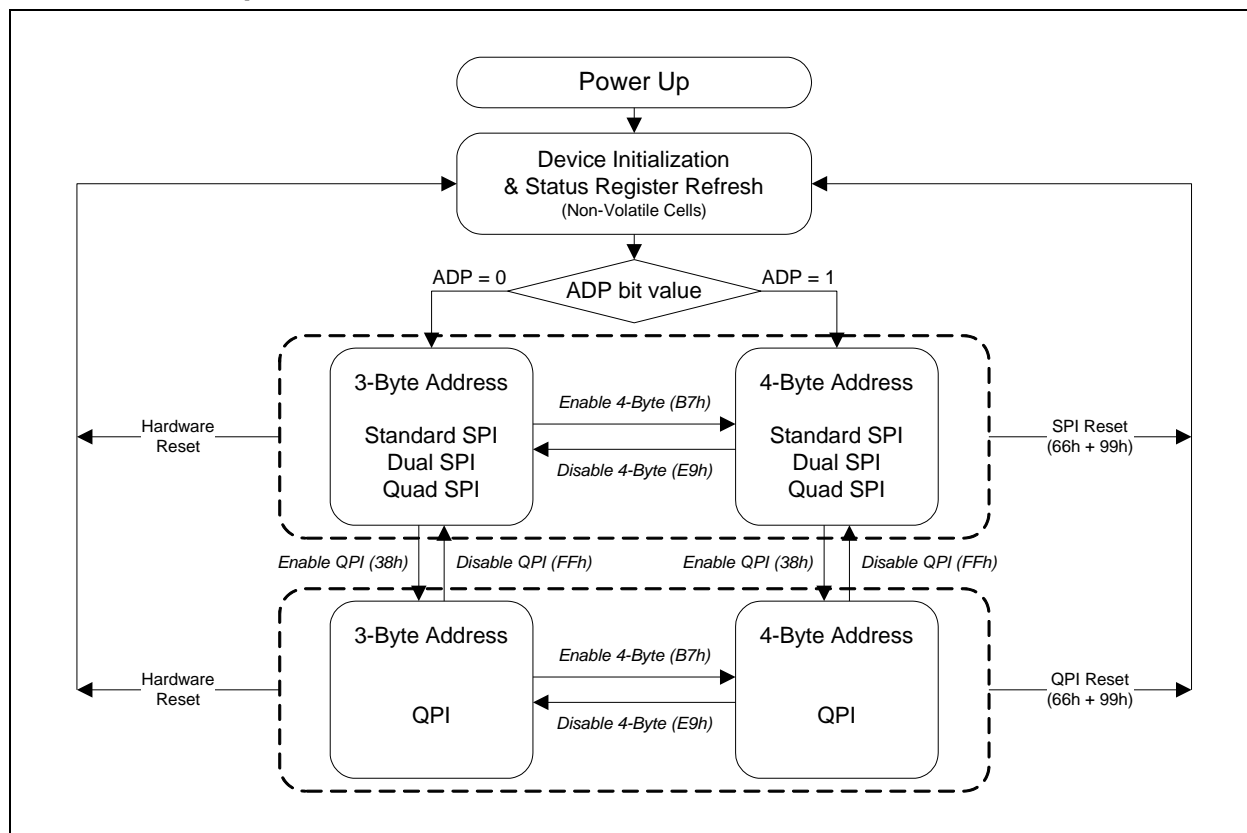

Figure 3. W25Q256JV Serial Flash Memory Operation Diagram
The W25Q256JV supports Quad Peripheral Interface (QPI) operations only when the device is switched from Standard/Dual/Quad SPI mode to QPI mode using the “Enter QPI (38h)” instruction. The typical SPI protocol requires that the byte-long instruction code being shifted into the device only via DI pin in eight serial clocks. The QPI mode utilizes all four IO pins to input the instruction code, thus only two serial clocks are required. This can significantly reduce the SPI instruction overhead and improve system performance in an XIP environment. Standard/Dual/Quad SPI mode and QPI mode are exclusive. Only one mode can be active at any given time. “Enter QPI (38h)” and “Exit QPI (FFh)” instructions are used to switch between these two modes. Upon power-up or after a software reset using “Reset (99h)” instruction, the default state of the device is Standard/Dual/Quad SPI mode. To enable QPI mode, the non-volatile Quad Enable bit (QE) in Status Register-2 is required to be set. When using QPI instructions, the DI and DO pins become bidirectional IO0 and IO1, and the /WP and /HOLD pins become IO2 and IO3 respectively. See Figure 3 for the device operation modes.